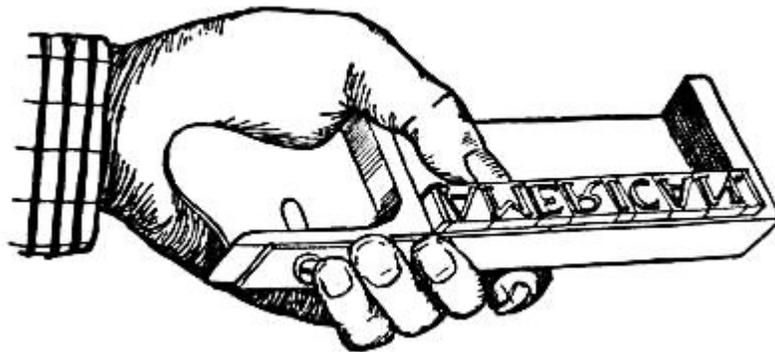

FIG. 152.—How to Hold the Composing-stick.
**A Composing-stick** is necessary. This should be held in the left hand, as shown in Fig. 152, while the right hand picks up the type one by one and drops them into the stick, where the left thumb shoves them into place. It will be seen by looking at the illustration that the type are set upside down and read from left to right. This may seem awkward at first, but with practice you will soon become accustomed to reading the letters in this position.